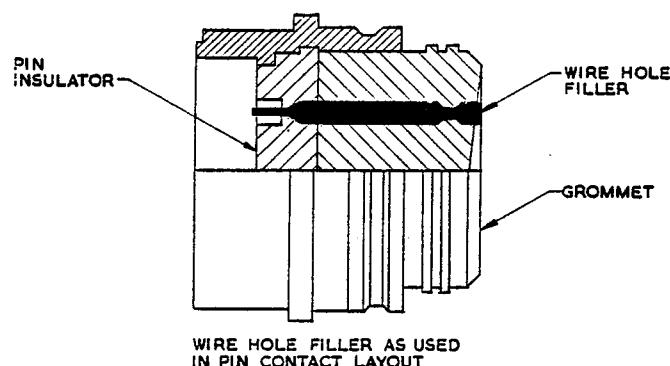

Fig. 4. Filler plugs pin contacts (Table 4)
11. When the full complement of contacts is not required, the contact cavities in the grommet must be plugged with filler plugs. Fig.4 and 5 show filler plugs inserted in the correct position in socket and pin contact cavities. When the filler plug is correctly inserted it is easily removed.
Filler plugs (fig. 4 and 5)